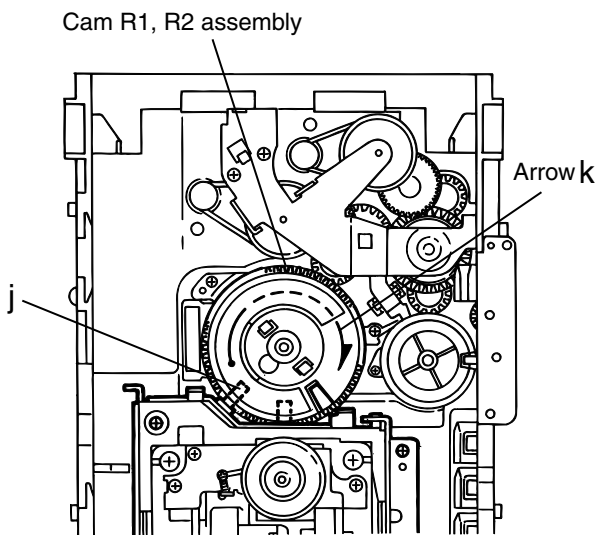

Fig.11
**■ Removing the DVD traverse mechanism assembly (See Fig.11 and 12 )**
1. For dismounting only the DVD mechanism without removing the DVD mechanism assembly, align the shaft **j** of the DVD mechanism assembly to the position shown Fig.11 while turning the cam R1 and R2 assembly in the arrow direction **k**.